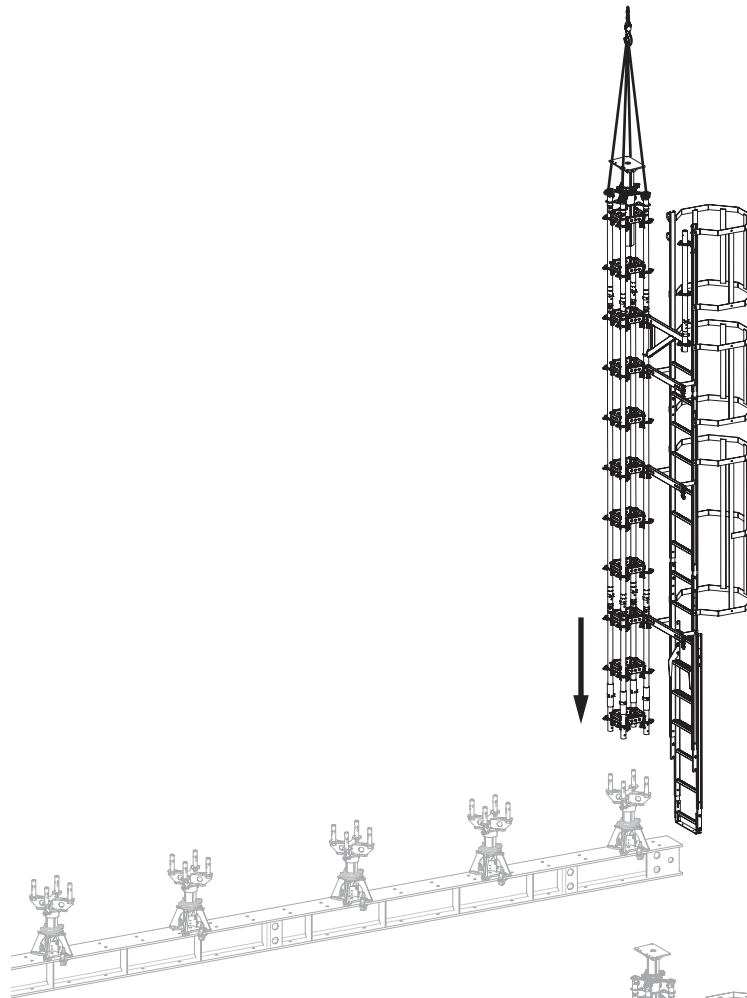

Fig. A6.13
2. Lift and position the first Heavy-Duty Prop HD with mounted ladder, Console Bracket UCM 75 and Top Standard UVH-2 100 as guardrail posts onto the first lowering jack using a crane. (Fig. A6.13)